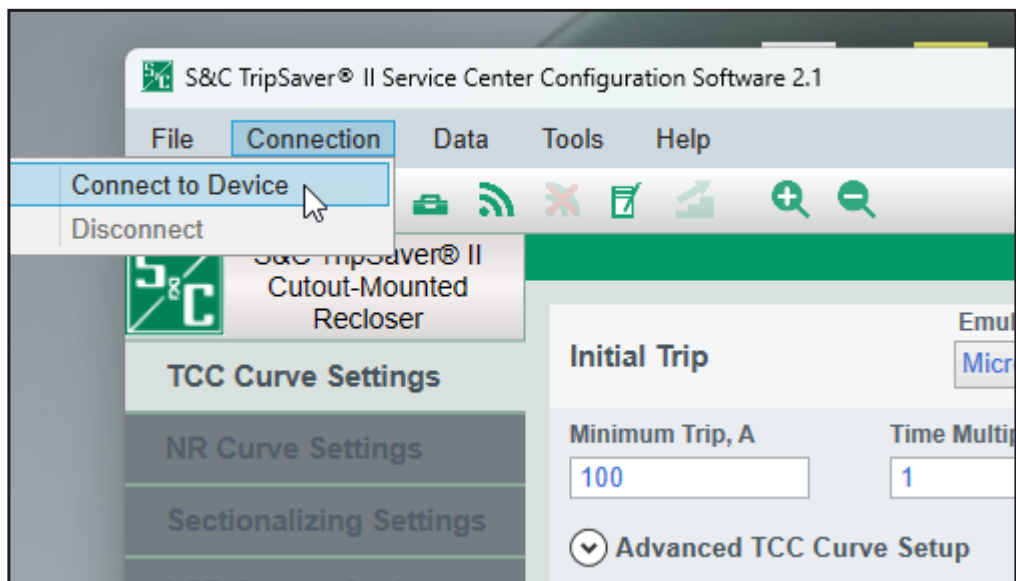

Figure 11. The Connect to Device menu item.
STEP 3. In the service center configuration software, select “Connection>Connect to Device” from the **Main** menu or click on the **Connect to Device** icon in the quick access toolbar. See Figure 11.